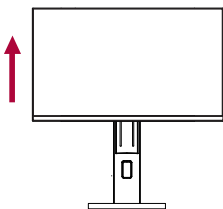

Figure 1
1. Before rotating the screen, please lift the screen to the maximum height according to Figure 1.